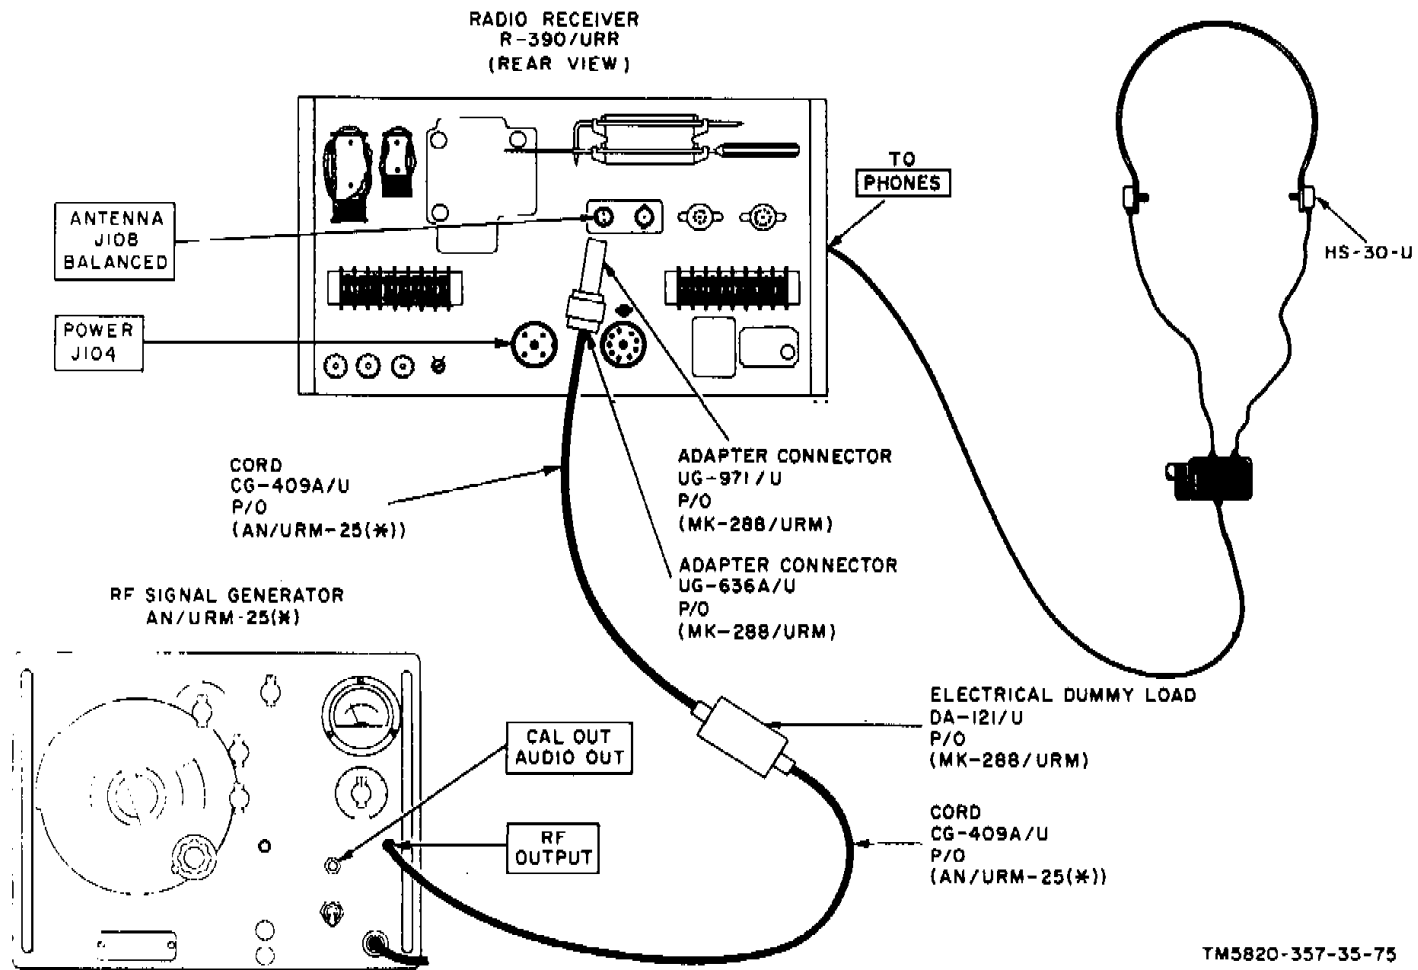

Figure 50. Line level meter, limiting, and squelch test setup.
*b. Test Connections and Conditions.* Connect the equipment as shown in figure 50.